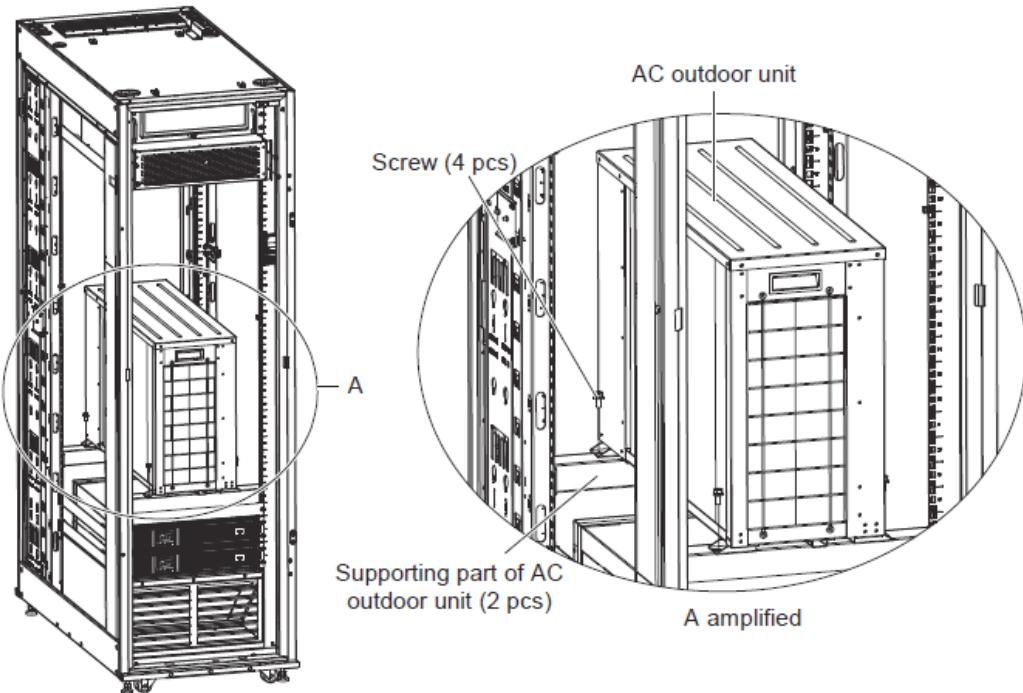

Figure 2-19 Removing the fixing screws of outdoor unit
2. Remove 4 screws from the four corners of the outdoor unit following which the AC outdoor unit can be taken out. Figure 2-19 depicts the location of the 4 screws on the four corners of the outdoor unit.